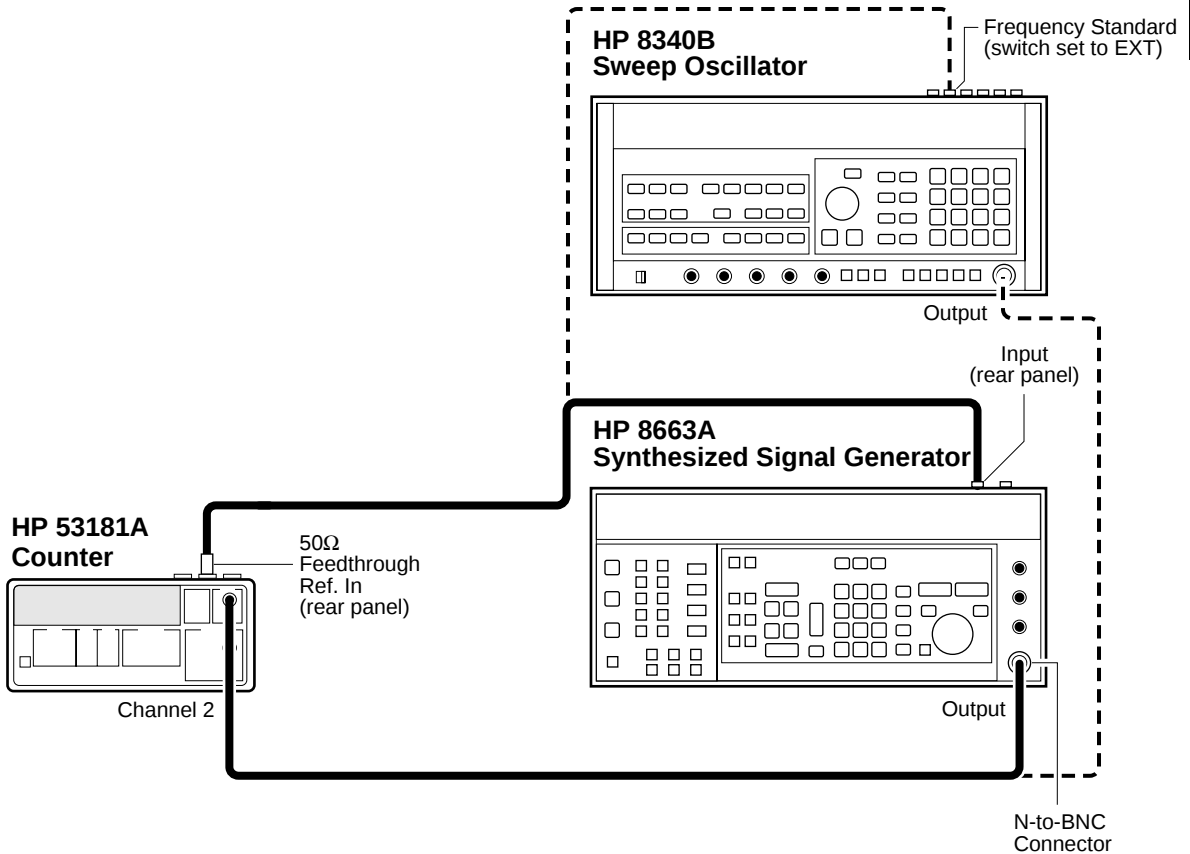

Figure 1-14. Option 015/030/050 Channel 2 Frequency Test
- 1 Set the HP 8663B Synthesized Signal Generator to output a 500 MHz, -60 dBm sine wave and connect the signal to Channel 2 of the Counter as shown in Figure 1-14.**
- 1 Set the HP 8663B Synthesized Signal Generator to output a 500 MHz, -60 dBm sine wave, and connect the signal to Channel 3 of the Counter as shown in Figure 1-14.**
- 1 **Disconnect the HP 8663A Synthesized Signal Generator from the Counter (see Figure 1-14), and connect the HP 8340B Sweep Oscillator to Channel 3 of the Counter.**